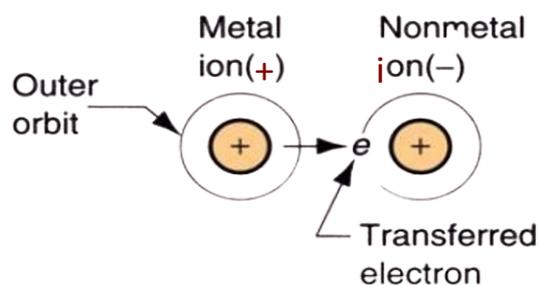

Figure 2.10 : Transferring electrons between nonmetallic and metallic elements
- It occurs between nonmetallic and metallic elements by **transferring the electrons** from an atom that has a positive charge to the atom that has a negative charge as in **Figure 2.10**.